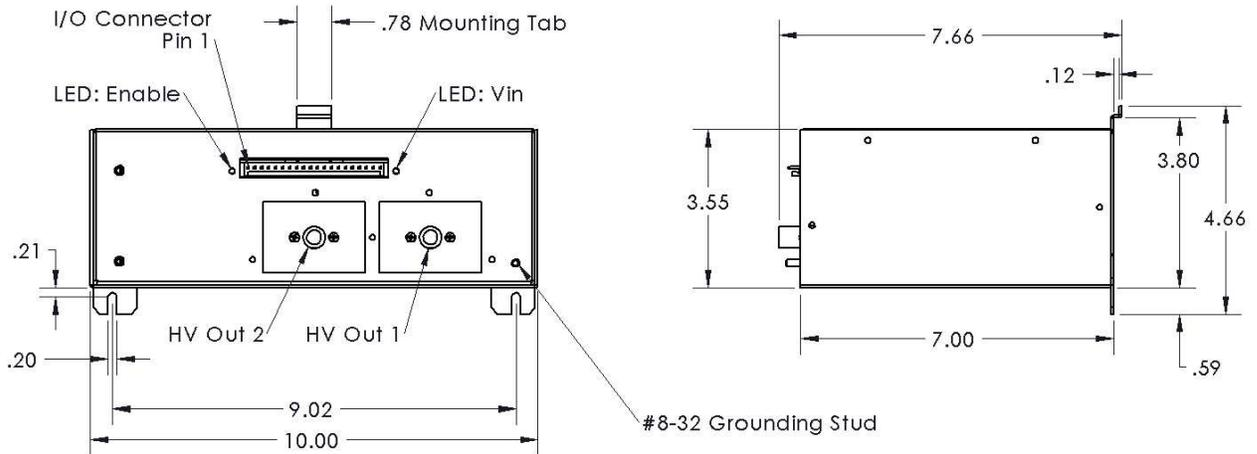

Fig. 2. Physical layout of 7201 power supply
7.0" H, 10.0" W, 3.6" D. Two mounting slots at the bottom for #10 bolts, plus one mounting tab, see Figure 2